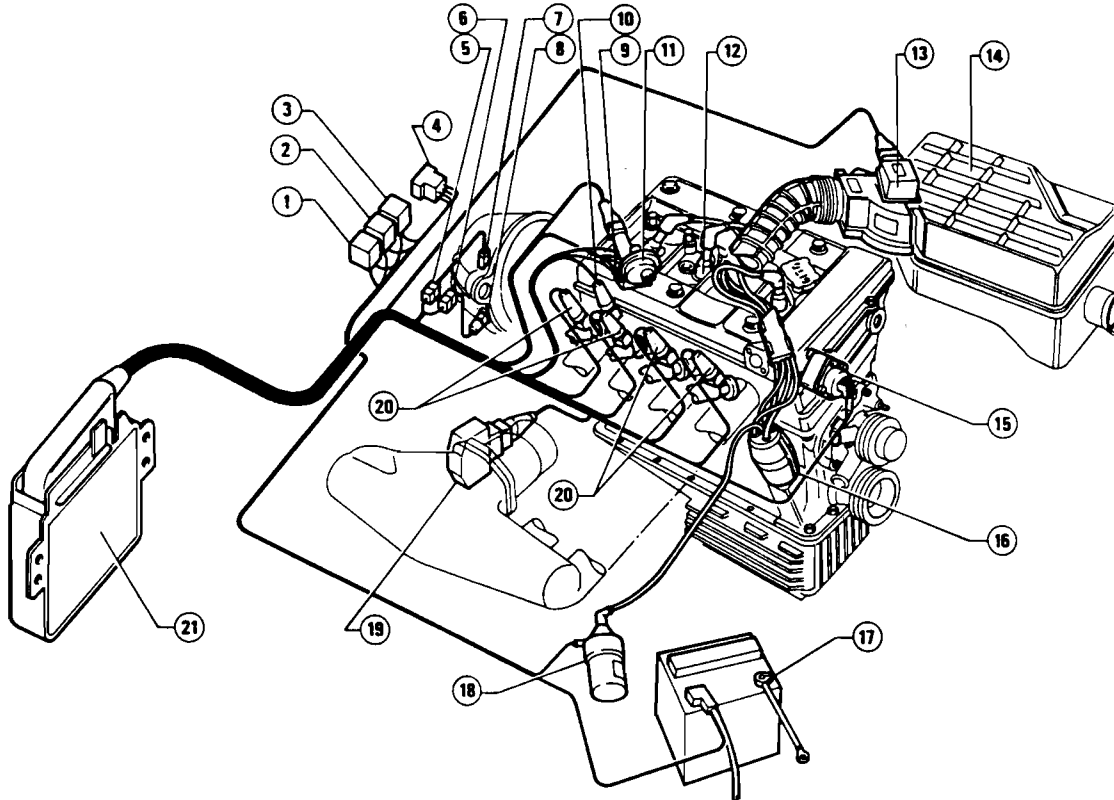

Fig. 13.25 Motronic engine management system (Sec 7)
- 5 The main components of the system are shown in Fig. 13.25.